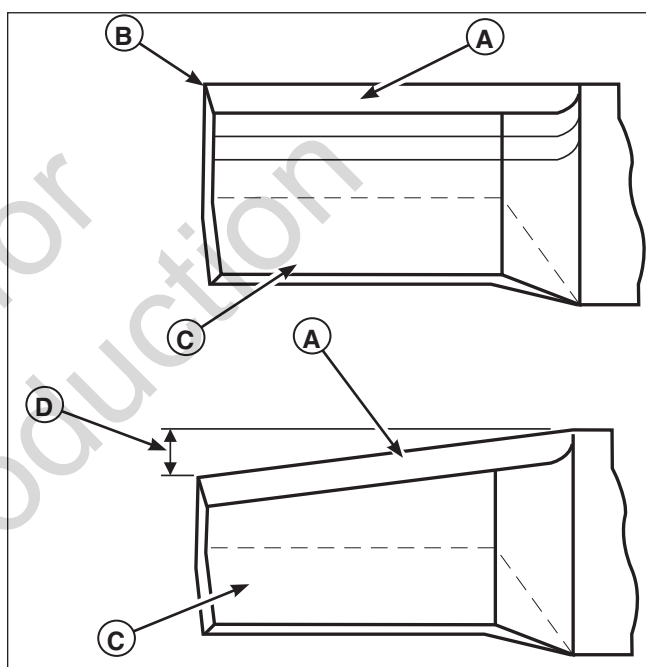

Figure 15. inspecting the Mower Blade Tips
2. Inspect the mower blade (Figures 15 & 16). **Discard the mower blade if it has any of the below conditions.**
- A.) Has more than .5" (12,7 mm) of the mower blade metal removed from previous sharpening or wear (D, Figure 15).